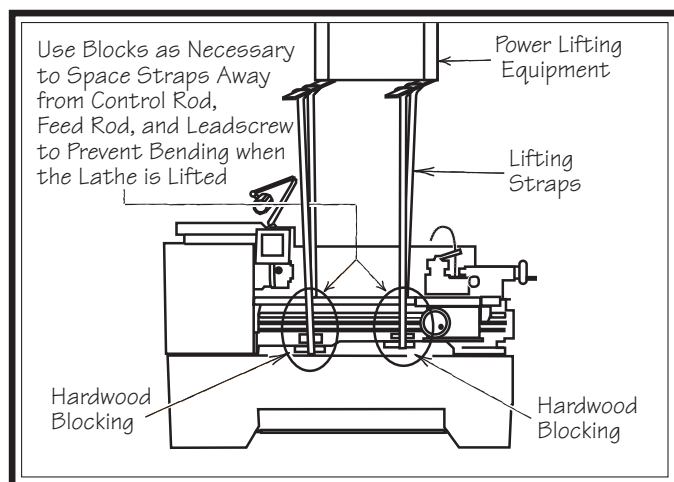

Figure 14. Example of lathe setup for lifting.
6. Attach the lifting straps to the power lifting equipment (see **Figure 14** for an example).